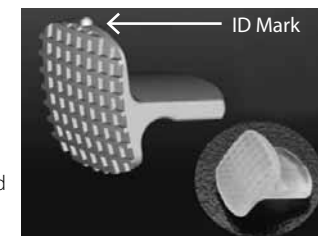

Figure 1: *Bite Guide* Placed with ID Mark, Gingival
1. **ID Mark Gingival:** Deep bite correction with 3 or less millimeters of space and more rapid mandibular advancement desired. (Figure 1)